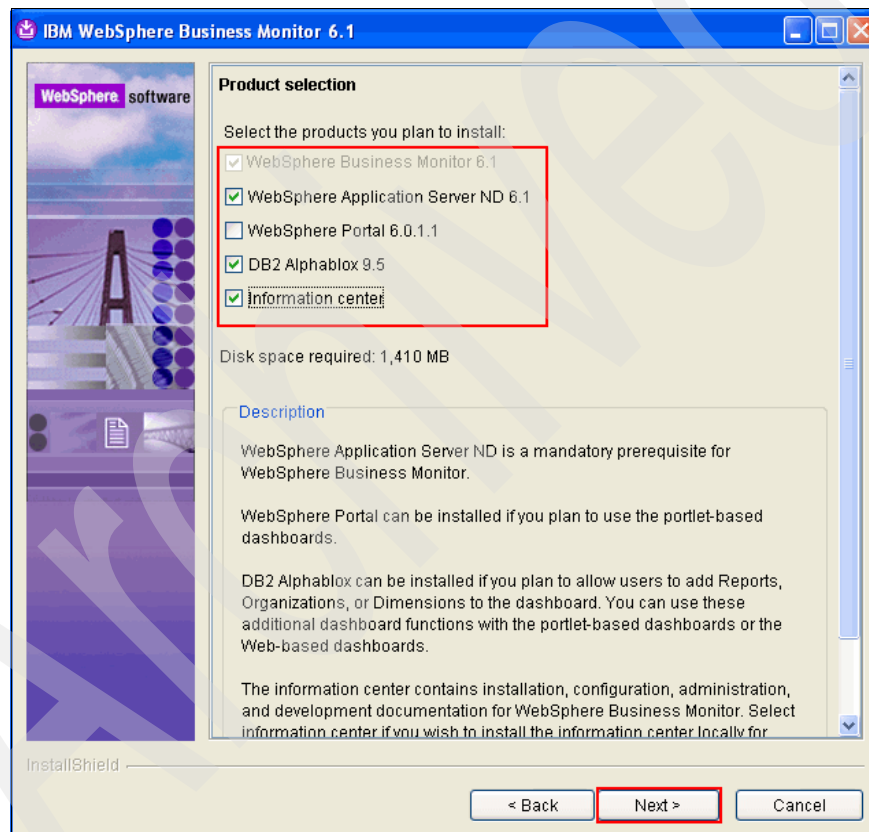

Figure 3-12 WebSphere Business Monitor 6.1 installation preparation: Product selection
4. In the Product selection panel (Figure 3-12), select **WebSphere Application Server ND6.1**, **DB2 Alphablox 9.5** and **Information center**. Then click **Next**.